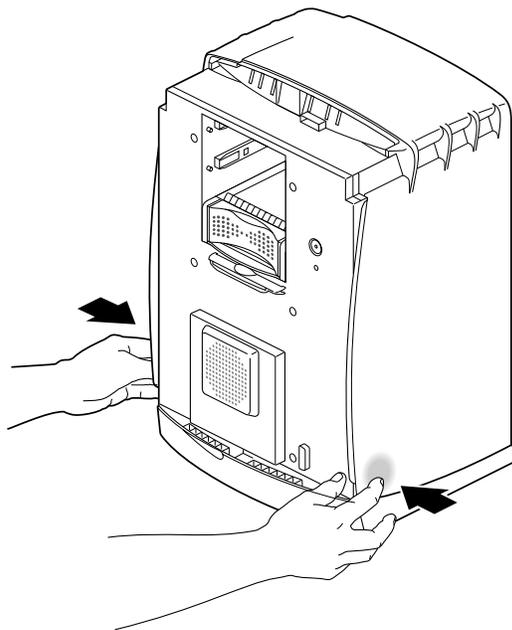

Figure 7-30 Releasing the Plastic Top Cover
1. Locate the two top cover release areas, as shown in Figure 7-30.